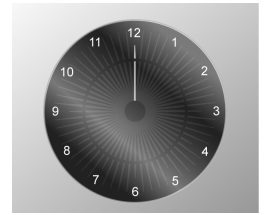

Fig. 3
- press the  button for **1 or 2 seconds**; the **hand** goes to position 12 (**Fig. 3**);